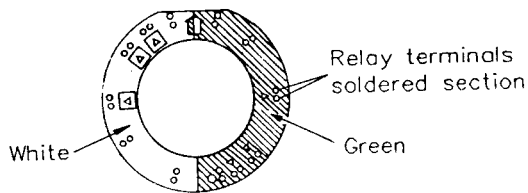

Fig. 4-2-1 Head relay P.C. board
1. Unsolder the relay terminals on the head relay P.C. board. The solder will be removed easily using a desoldering wire (Fig. 4-2-1, 4-2-2).
4. Align phases of the white part of Head relay P.C. board and Rotary transformer (A) P.C. board and then mount the upper cylinder.